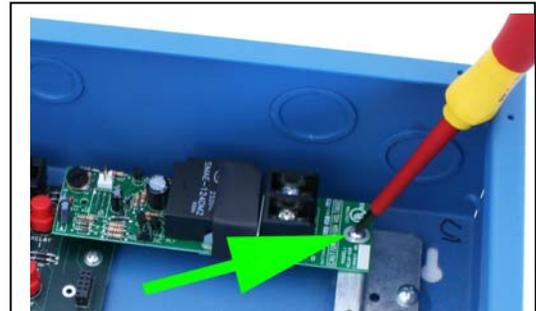

Figure 3 - Tighten Mounting Screw
Step 5: Tighten screw (**Figure 3**). Repeat Steps 1 through 5 for each additional relay card.